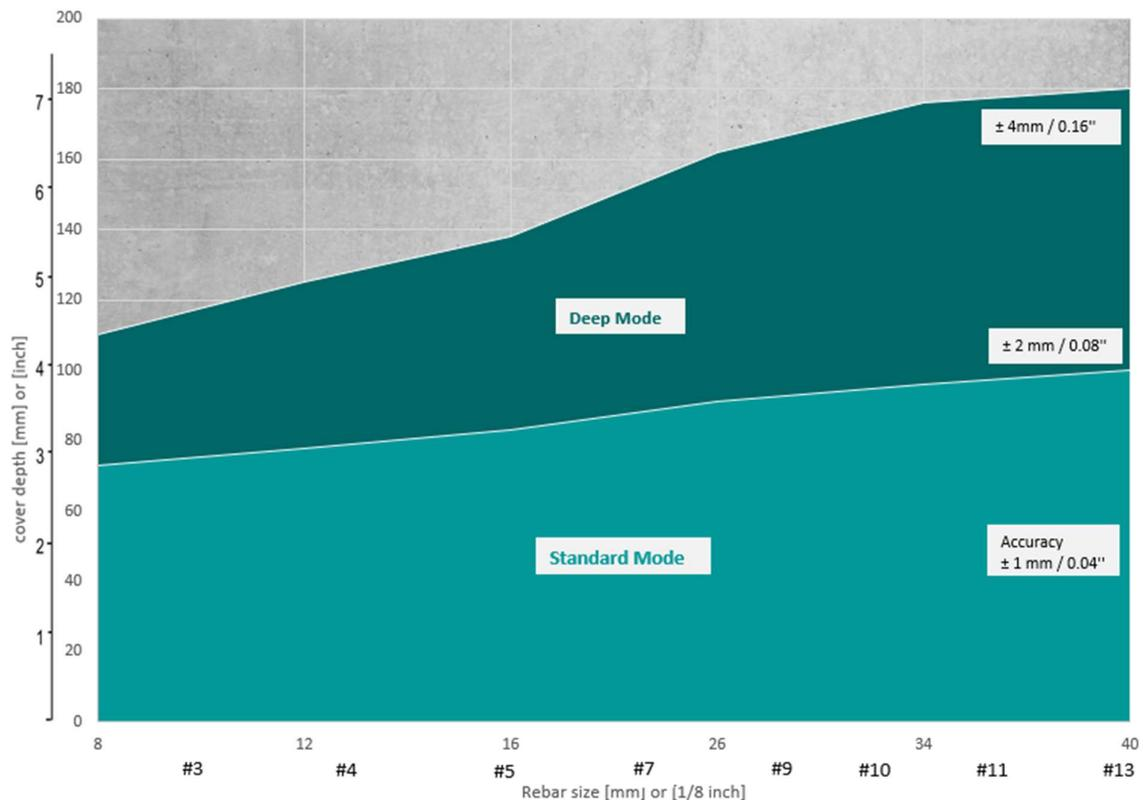

Figure 26: Measuring range without cart
However, 80mm limit is only an average depth limit. That is why if the rebar diameter is known, the Figure 26 provides more precision on the maximum depth possible following the rebar diameter.
- ❗ In deep mode, 180mm is the maximum depth limit for detection. Nevertheless, if the rebar diameter is known, the Figure 26 provides more precision on the maximum depth possible of detection following the rebar diameter.